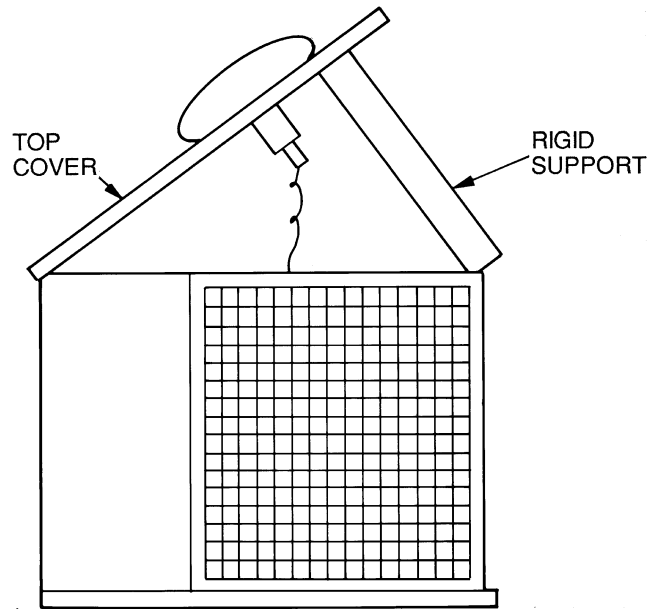

Fig. 16 — Pivot and Support Top Cover
2. Remove screws holding rear corner posts and top cover in place. Pivot top cover up 12 to 18 in. (305 to 457 mm) and support with a rigid support. See Fig. 16.